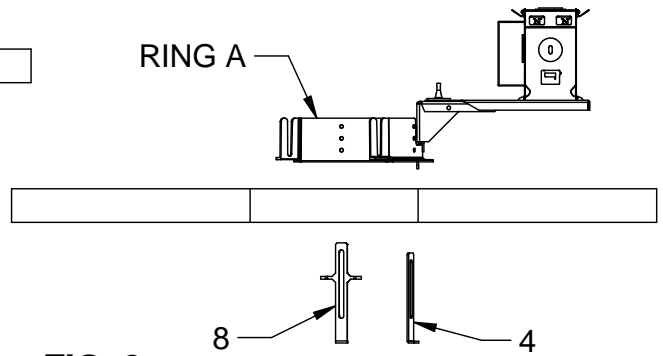

FIG. 2
- C. Position RING "A" by centering it on ceiling opening. Hold RING "A" down against the top of the ceiling and install two clips (4, 8) by pushing lower portion of clip (4, 8) onto lip of metal flange or ceiling cut out while aligning the slot in clip (4) with the screws (5) in Ring "A". With ring "A" centered and pressed down firmly, tightening two screws (5) to secure. (SEE FIG 2 and 3) RING "A" can be rotated as needed to clear any obstacles and/or to be positioned best for the flexible conduit, etc. prior to tightening two screws (5) in clips (4, 8). If additional adjustment is needed, screw (6) and/or screw (7) can be loosened and junction box (3) can be further moved. Ensure that screws (6) and (7) are retightened after this step. (SEE FIG. 4)